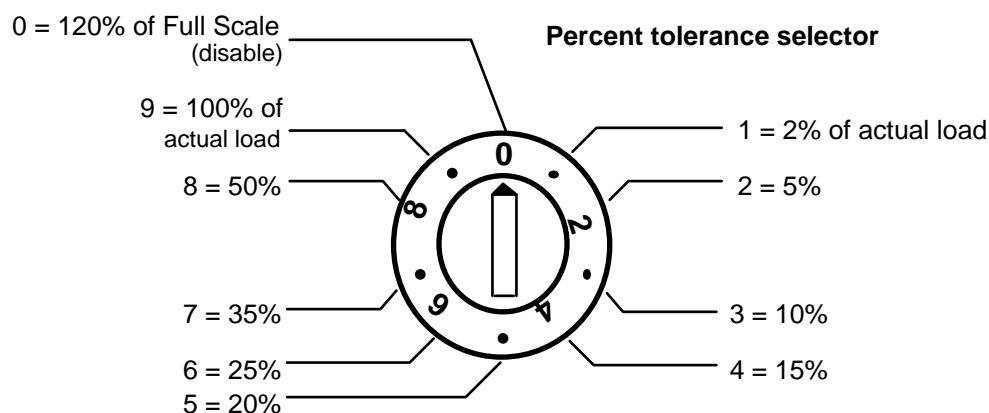

Figure 4-2. Percent tolerance selector switch
3. Look at Figure 4-2 to become familiar with the selector setting switch. (This drawing is also shown on a label inside the AutoSet door.) The selector dial has settings from 0 to 9. Each setting represents a percentage. The first dot to the right of 0 is 1. 1 = 2%; 2 = 5%; 3 = 10%; 4 = 15%, and so on.